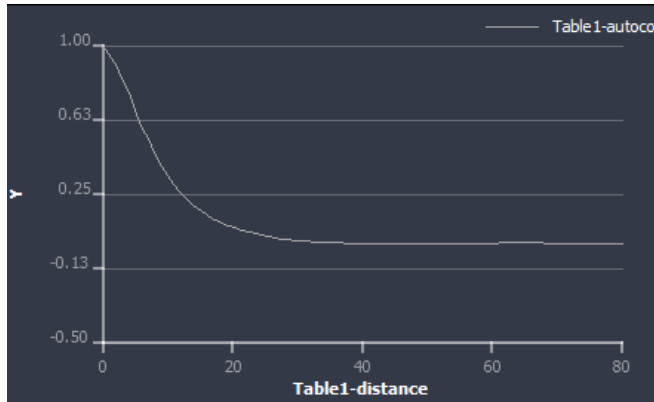

Figure 19.4: Autocorrelation versus Distance Plot
- Plot the autocorrelation versus distance. The autocorrelation decreases progressively until an asymptote is reached. The distance from which this asymptote reaches about 30 voxels is the range of the microstructure. A rule of thumb for an optimal subset size is to take about 3-4 times this value. We will use 110 voxels in this study (see Figure 19.4).